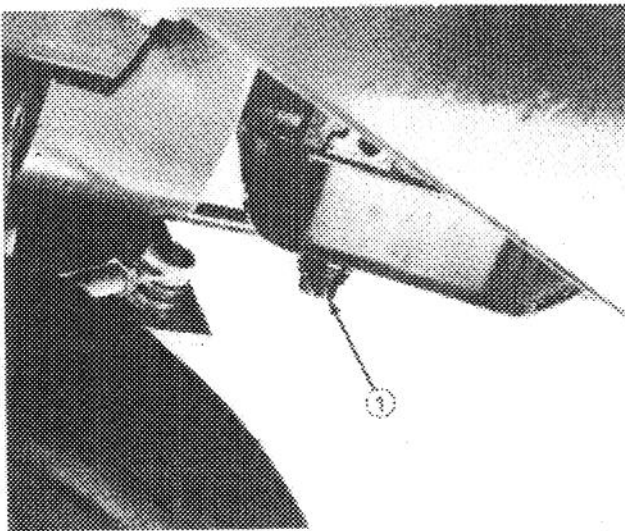

Figure 47
2. Disengage hood latch and open the hood. Set drain pan under the housing and in line with drain plug (Fig. 47).
4. Remove oil drain plug and allow oil to flow into drain pan. Remove and replace oil filter (Fig. 47); refer to parts catalog for part number.